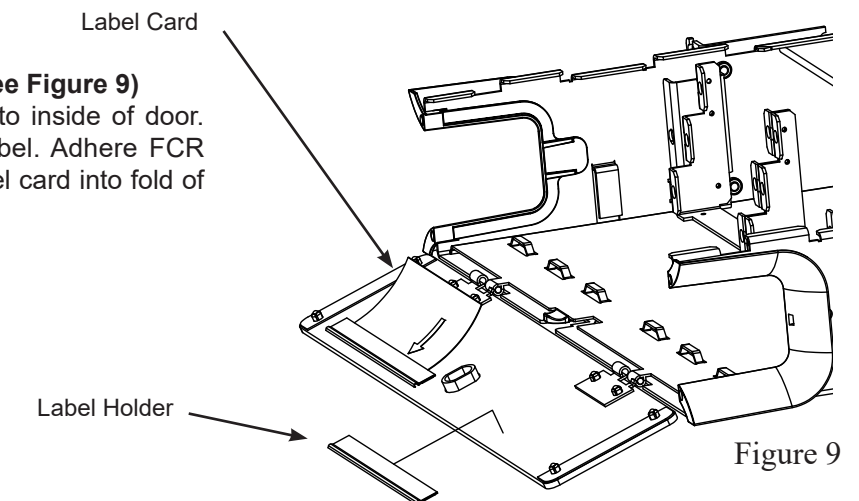

Figure 9
6.1 FCR Label Sheet Installation: (See Figure 9)